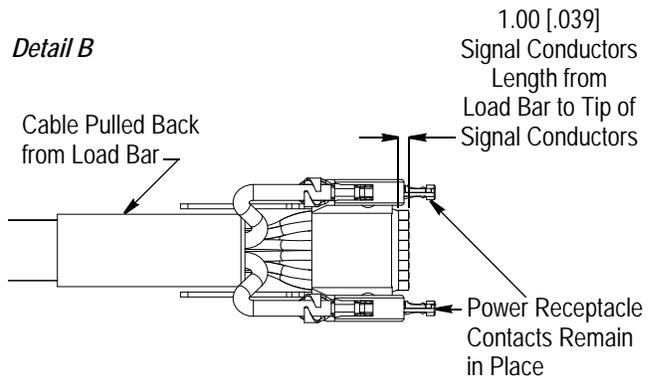

Figure 6
6. Trim the cable signal conductors so that they are square and even with the end of the power receptacle contacts. Refer to Figure 6, Detail A.
7. Pull the cable back from the load bar so that the length of the signal conductors, measured from the end of the load bar to the tip of the signal conductors, meets the dimension given in Figure 6, Detail B.